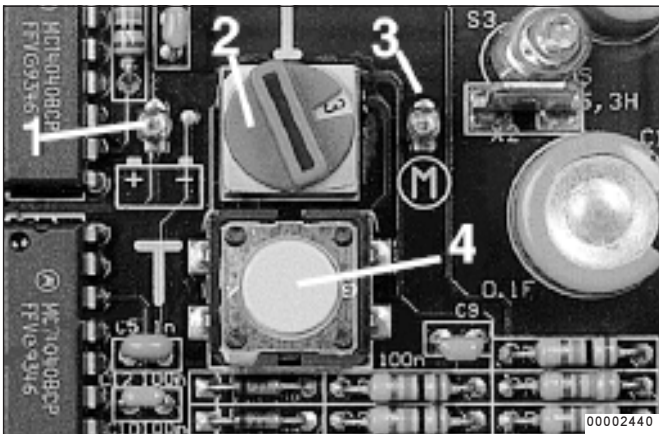

Fig. 10: LED of the printed circuit board
- To check whether voltage is applied to the printed circuit board, observe whether the left-hand LED 1, Fig. 10, is lit.